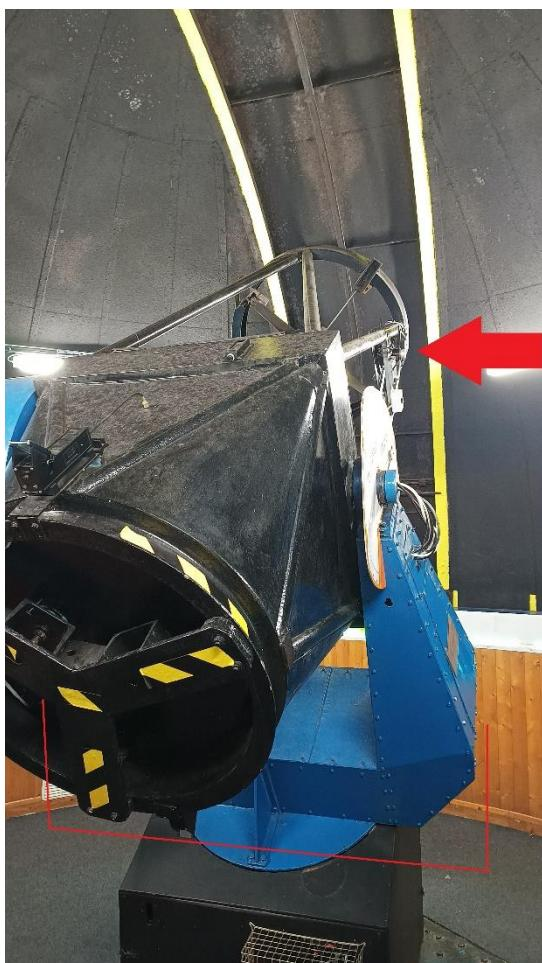

Fig. 24: Telescope back in the HOME position
Again, the telescope will move in both axes. Once the telescope base is square, then release the LEFT button, just leaving the DOWN button pressed. Release the DOWN button when the telescope is back in the HOME position with the telescope base ‘square on’ and the eyepiece back on the RIGHT-HAND side, as shown in Fig. 24 below:
- 4) If the telescope has been inverted ('flipped over'), then it MUST be inverted back to the HOME position, that being with the eyepiece on the RIGHT-HAND side as you look towards the secondary mirror (See Fig. 24 and how to invert (Section 13) above).
- 5) Now bring the telescope back up to '0' degrees as shown on the scale and slew base back round to the SOUTH (See Fig. 24: HOME position).